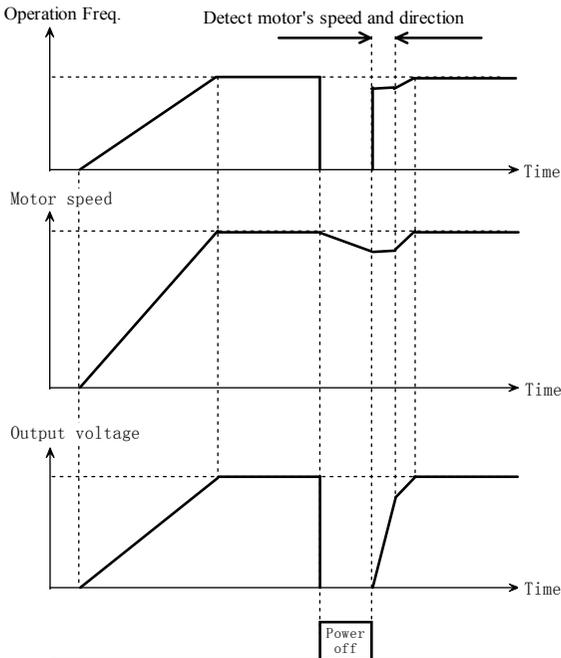

Figure. 5-1-2 Rotating speed tracking restart
- ◆ Rotating speed tracking: Detect the motor's running speed, and then start at the detected speed, running to the setting frequency according to the Acc/Dec time, realize smooth start of motor, as shown in Figure. 5-1-2. This mode is suitable for the motor with big inertial load.